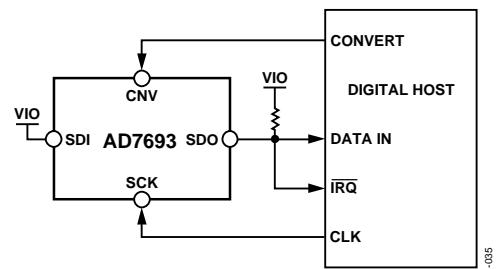
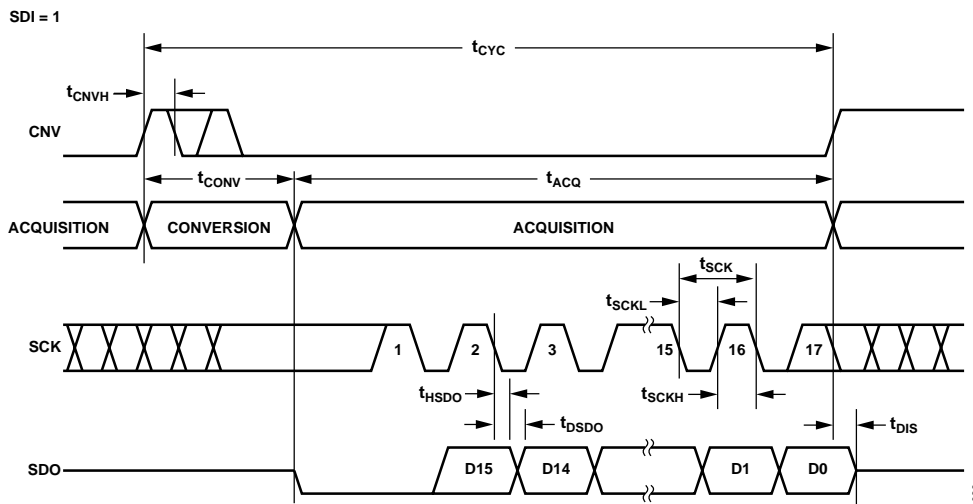
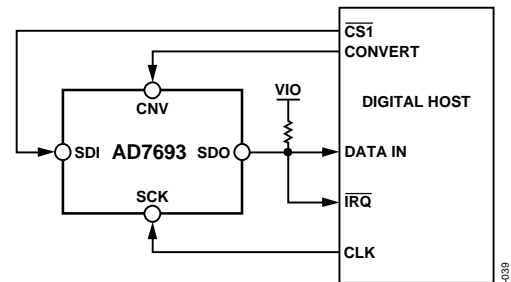
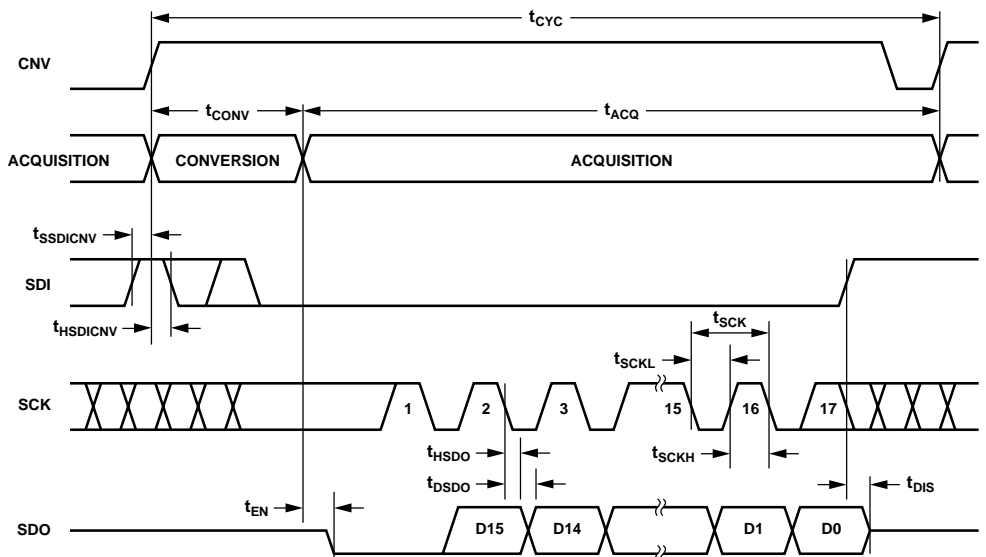

Figure 35. 3-Wire $\overline{\text{CS}}$ Mode with Busy Indicator Connection Diagram (SDI High)
Figure 36. 3-Wire $\overline{\text{CS}}$ Mode with Busy Indicator Serial Interface Timing (SDI High)
Figure 39. 4-Wire $\overline{\text{CS}}$ Mode with Busy Indicator Connection Diagram
Figure 40. 4-Wire $\overline{\text{CS}}$ Mode with Busy Indicator Serial Interface Timing
- In the $\overline{\text{CS}}$ mode if CNV or SDI is low when the ADC conversion ends (see Figure 36 and Figure 40).
The connection diagram is shown in Figure 35, and the corresponding timing is given in Figure 36.
The connection diagram is shown in Figure 39, and the corresponding timing is given in Figure 40.